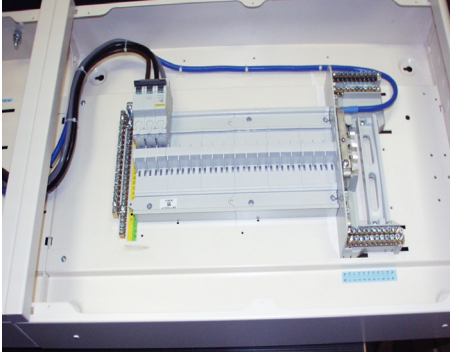

Fig 32
- c. Plug MCB block that was removed in step a, to top of stack. (Fig 32).
- e. Connect the Neutral cable from the bottom LoadCentre's Neutral terminal using the M5 Allen bolt supplied, tighten to 2.5 Nm. (Fig 32). Crop the cable to length and connect to the incoming device as fitted in Step d, respecting phase rotation (from left N, L1, L2, L3. (Fig 33). Tighten cable terminals according to recommended tightening torque.